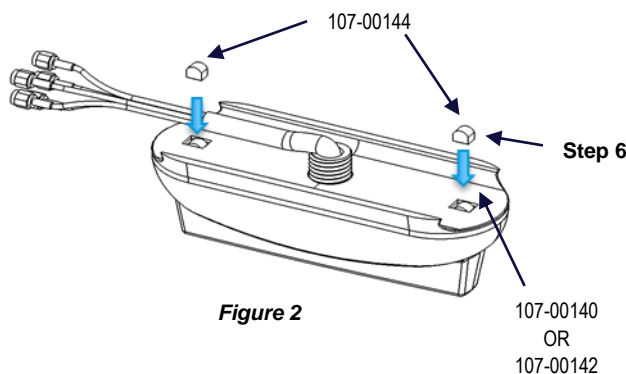

Figure 2
6. Install the two supplied foam cores (107-00144). Remove the liner, position the foam cores as shown in Figure 2, and press them into place.